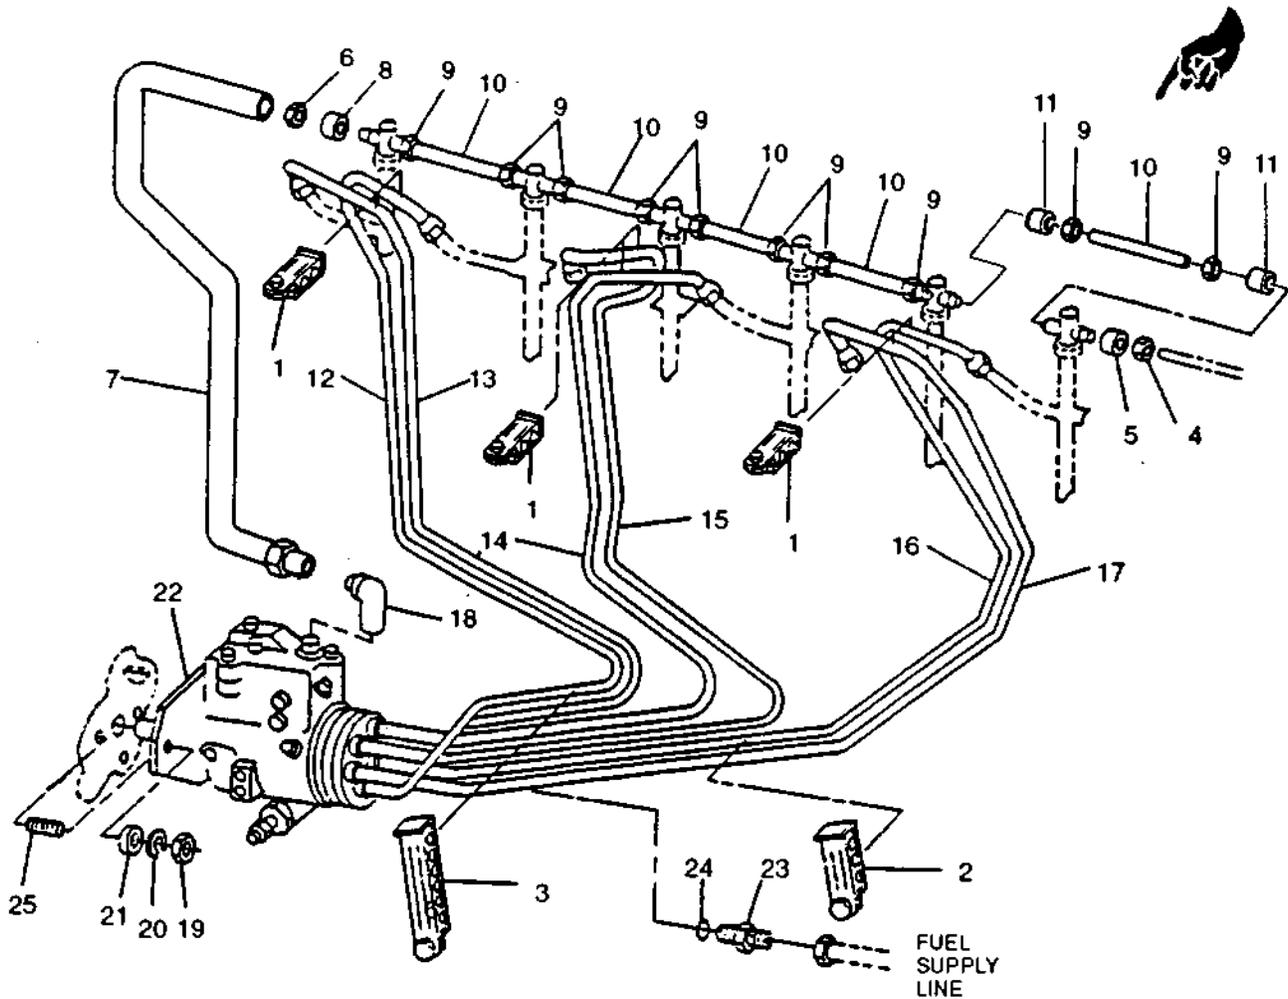

FIGURE 3-59. Fuel Lines and Injection Pump Installation
- b. If necessary, remove fuel line (9) by disconnecting it at elbows (10 and 24).
- c. Remove three loop clamps (1, FIGURE 3-59).
- e. At cylinder No. 6 fuel injector, loosen coupling nut (4) and disconnect return line to fuel tank. Remove coupling nut (4) and bushing (5). Discard bushing (5).
- f. At cylinder No. 1 fuel injection, loosen coupling nuts (6) and disconnect return tube (7). Remove nuts (6) and bushing (8). Discard bushing (8). Disconnect other end of tube (7) from fitting (18).
- g. Loosen coupling nuts (9) securing five tubes (10) to injectors. Remove tubes (10), ten coupling nuts (9), and bushings (11). Discard bushings (11).
- a. Remove all caps and connect six fuel injection lines (12, 13, 14, 15, 16, and 17, FIGURE 3-59) to fuel injectors and fuel injection pump as tagged during removal.
- b. Install ten new bushings (11) and coupling nuts (9) on five tubes (10). Install tubes (10) to fuel injectors and secure with coupling nuts (9). Do not overtighten coupling nuts.
- c. Connect tube (7) to fitting (18). Connect other end of tube (7) to No. 1 injector using new bushing (8) and coupling nuts (6). Do not overtighten coupling nuts.
- d. Connect fuel tank return line to No. 6 injector using new bushing (5) and coupling nut (4). Do not overtighten coupling nut.
- e. Disconnect fuel supply line (FIGURE 3-59) and cap off both fuel supply line and injection pump inlet.
- f. Disconnect fuel tube assembly (7, FIGURE 3-59) from fitting (18) on fuel injection pump.
- (2). Support weight of injection pump (22, FIGURE 3-59) and remove nuts (19), lockwashers (20), and washers (21) securing injection pump (22) to front plate. Discard lockwashers.
- (3). Remove pump from mounting studs (25). Proceed to step n.
If nuts (19, FIGURE 3-59) are removed prior to shaft/gear separation, fuel injection pump will fall out which can cause personal injury and/or equipment damage.
- (4). Loosen three nuts (19, FIGURE 3-59) several turns to permit pump shaft/drive gear separation.
- (5). Tighten large hex head capscrew on puller clockwise until pump shaft is loosened from tapered bore of drive gear.